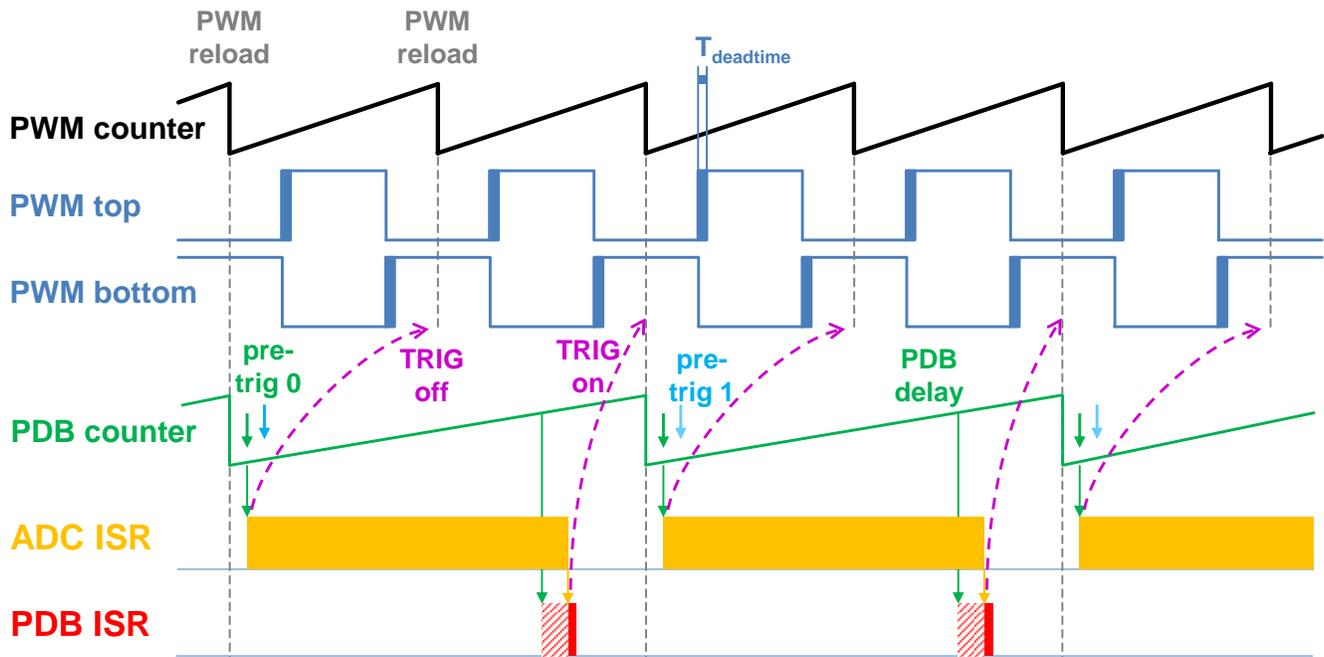

Figure 4. Hardware timing and synchronization on KV11Z and KV10Z
- The PDB Delay interrupt is enabled. This interrupt is generated when the PDB\_IDLY is reached. This interrupt enables the FTM\_TRIG (see Figure 4).